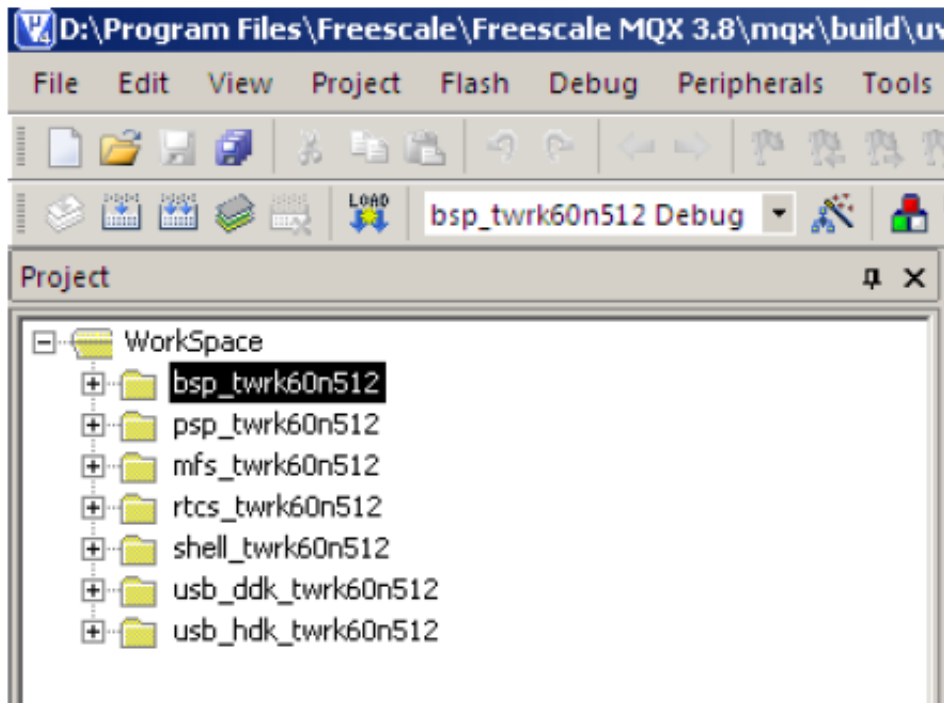
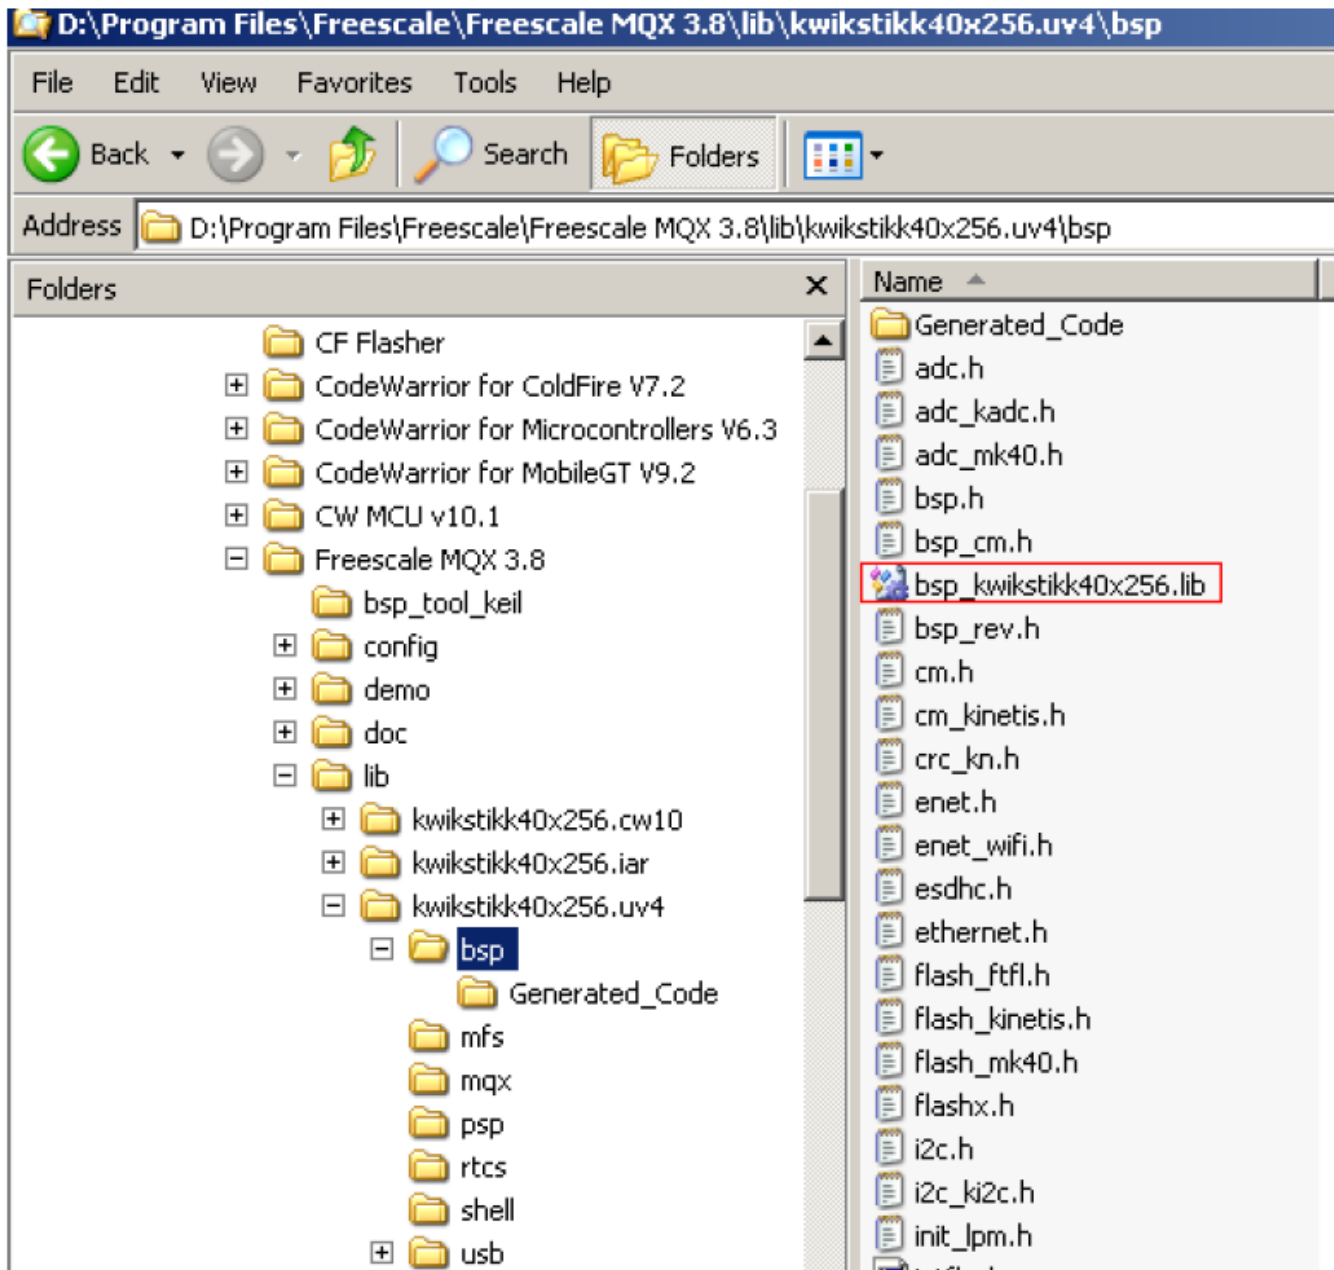

Figure 2. Workspace in <config> folder containing all the MQX components
Figure 3. Output folder of lib
- **build_libs.uvmpw** at <mqx_install>config\twrk60n512\uv4: This is a workspace build file which includes all the components of MQX including BSP, PSP, MFS, RTCS, SHELL, and USB. See Figure 2. This workspace must be opened to rebuild the components during the development.
- **lib**: This is the output folder for all the projects in Figure 2. It contains the output .lib file and .h file which are used by the application projects. See Figure 3.